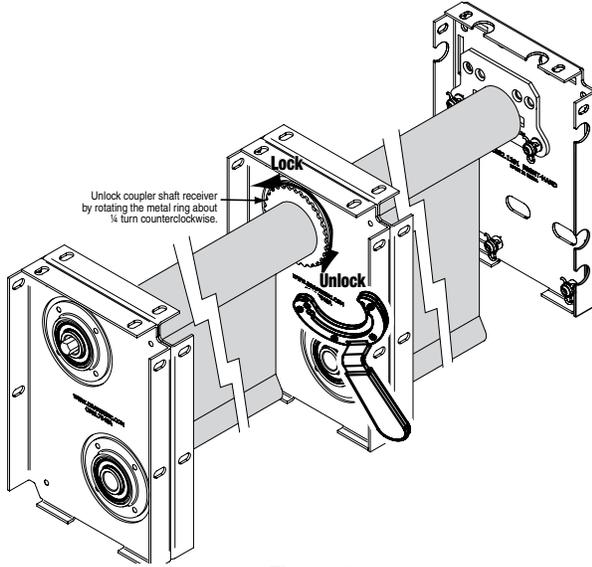

Figure 12
- 1 Unlock height adjuster mechanism (or coupler shaft receiver) located at the operator end of fabric roller assembly being adjusted by rotating the metal ring about 1/4 turn counterclockwise when viewing the face of the coupler assembly (see Fig. 12).